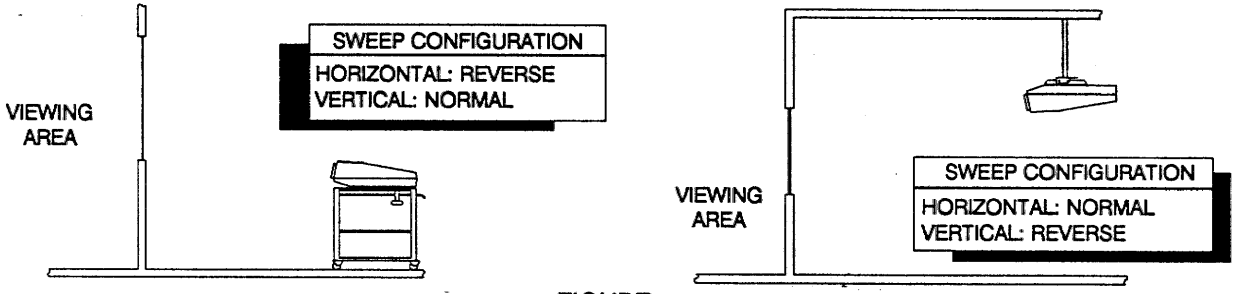

FIGURE 5-3.
- Rear/table mounting requires only the horizontal sweep being reversed. Please refer to Figure 5-3.
- Rear ceiling mounting requires only the vertical sweep being reversed from the factory preset. Please refer to Figure 5-3.